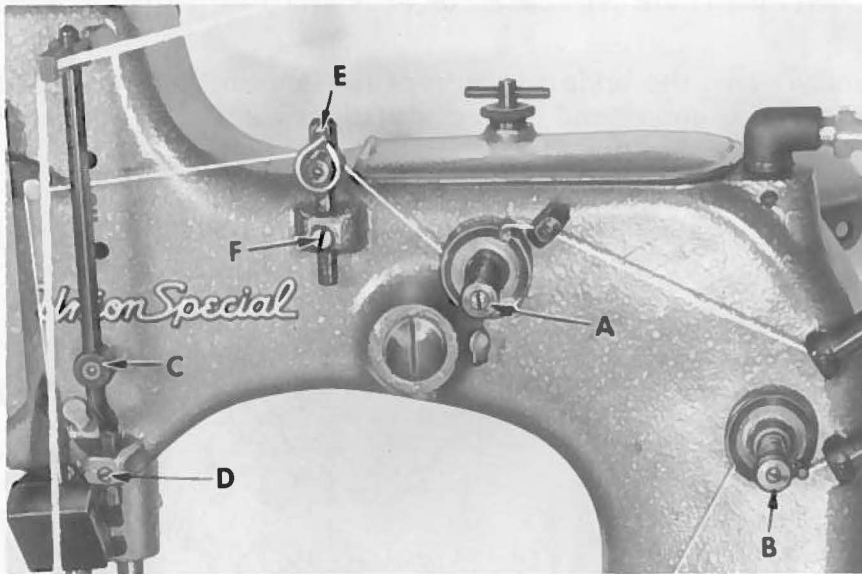

Fig. 6
The tension applied to the needle thread at (A, Fig. 6 and 6A) should be fairly strong. On Styles 80800 E and H, the tension applied to the looper thread at (B, Fig. 6) should be barely sufficient to steady it.
On Styles 80800 E and H, adjust the height of the needle thread take-up roller (C, Fig. 6), which is secured by screw (D), so that the needle thread on the downstroke of the needle, contacts the roll at the time the needle loop is released from the looper.
On Style 80800 F, the needle thread take-up roller (C, Fig. 6) should be positioned so as not to contact the needle thread at anytime.
On Styles 80800 E and H, adjust the height of the vertical thread eyelet (E, Fig. 6) which is secured by screw (F), so that an equal quantity of needle thread is drawn through the needle thread tension discs on the up and down stroke of the needle.